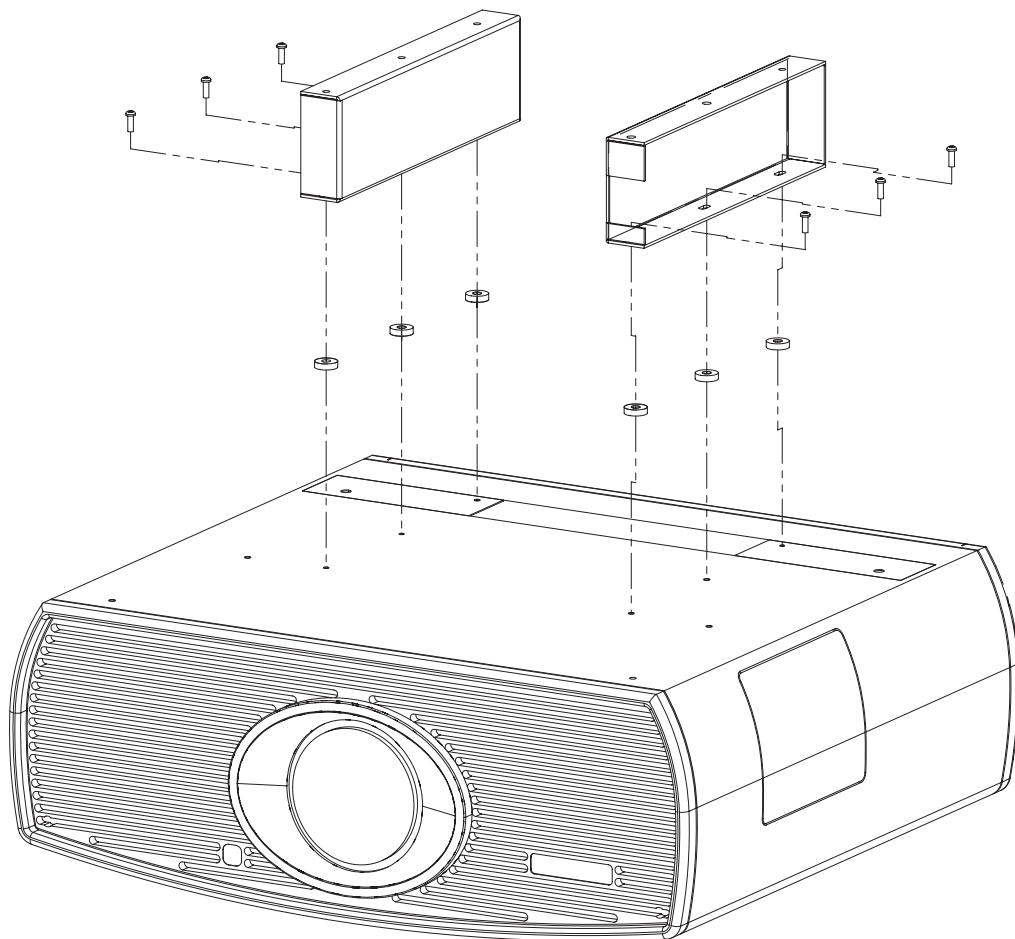

Figure 3-6. Vision 70 with Ceiling Mount Adapters/Projector Stands
Using six (6) each of the supplied, 10-32 x 1/2" Pan-Head Phillips screws (item #2) and nylon spacers (item #5), attach the AutoScope Ceiling Mount Adapters/Projector Stands (items #3 and #4) to the projector as shown in Figure 3-6.